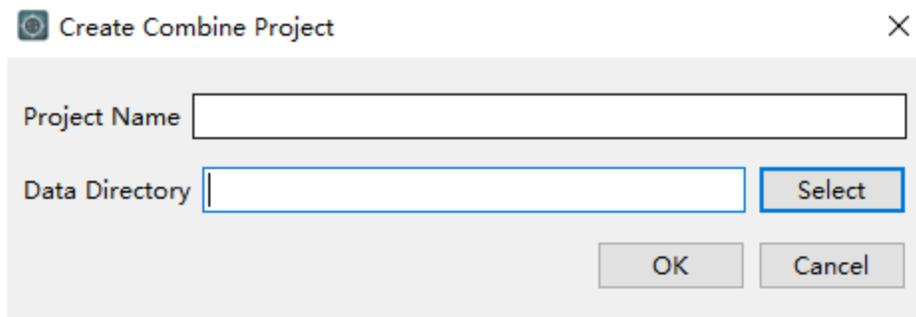

Figure 3-1 New Project dialog box
- In the "Project Name" field (see Figure 3-1), enter the name for the new fusion project.